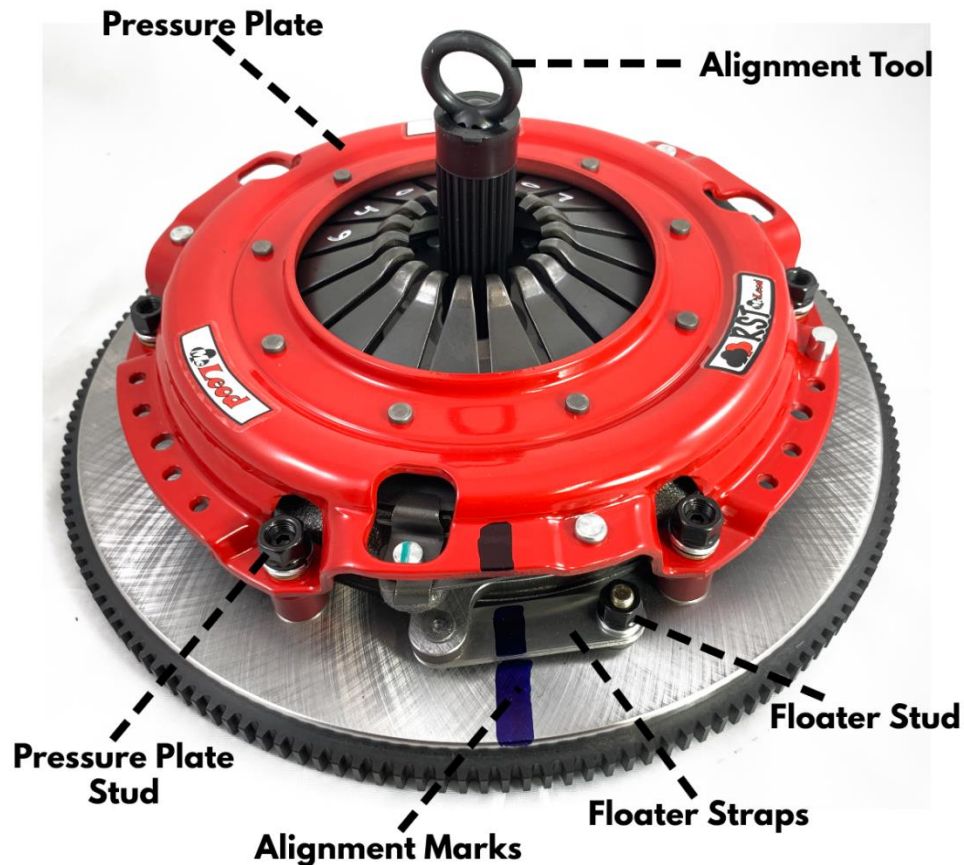

Figure 1
- 1) Inspect clutch assembly before disassembly. See Figure. 1. Note alignment marks.